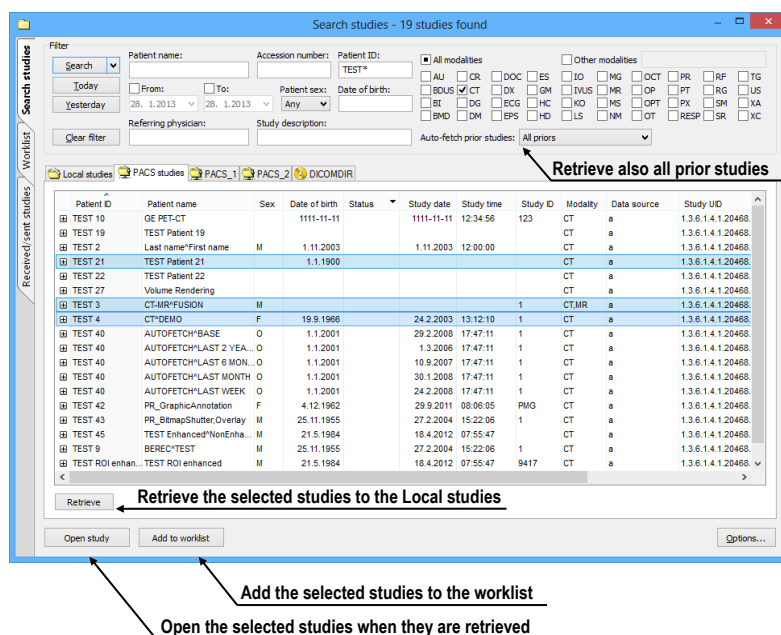

Figure 104 – Retrieving studies from the PACS server to the Local studies
2. The studies stored on the server that meet the filtering conditions will be included in the list (see Figure 104).